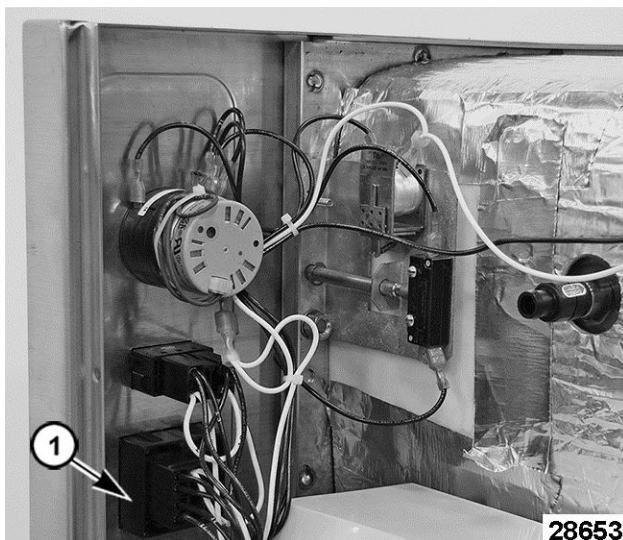

Fig. 68
2. Locate the on/off switch [1] Fig. 68 mounted to the front panel.